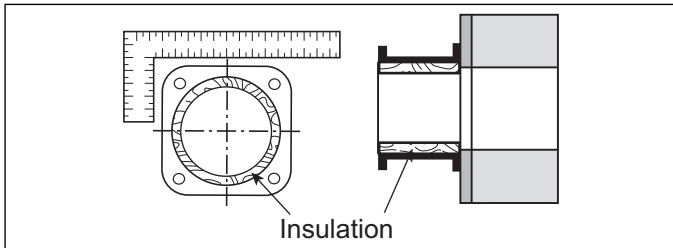

Figure 3.2 Mounting Extension Installation
4. Bolt mounting extension to the furnace casing. See Figure 3.2.